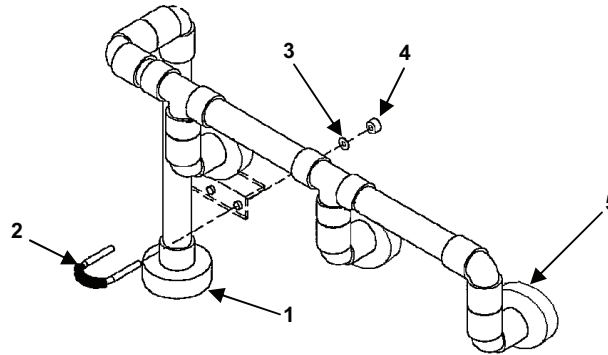

Figure 6. Backwash/ Filtrate Piping.
1. Loosen the unions 3 ea. (Figure 6, Item 5) and at (Figure 6, Item 1).
2. Remove the nuts (Figure 6, Item 4), washers (Figure 6, Item 3) from U-bolt (Figure 6, Item 2). Remove U-bolt.